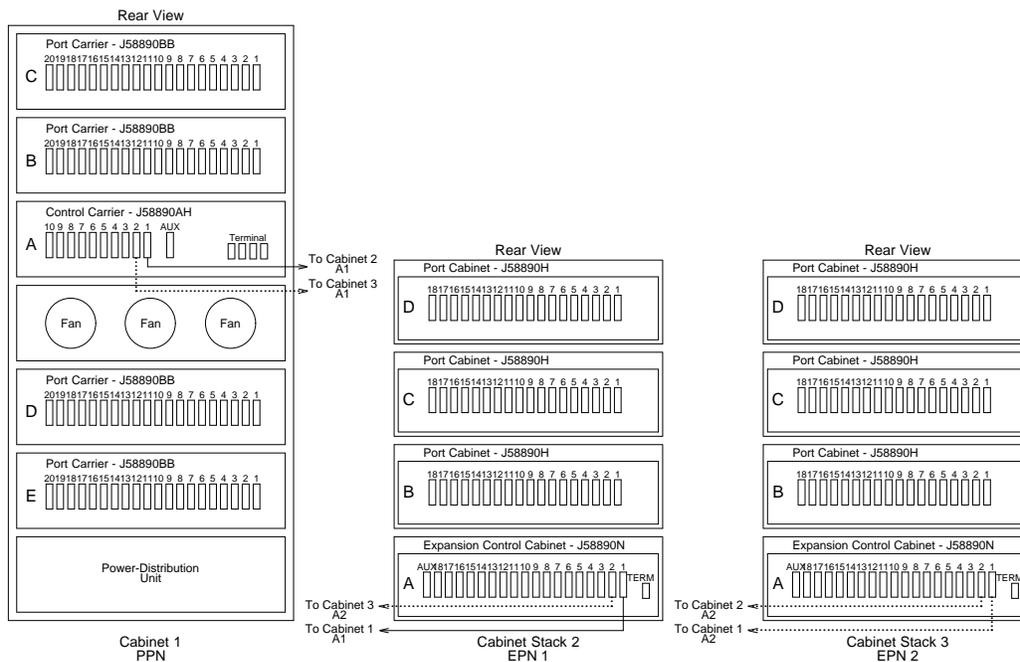
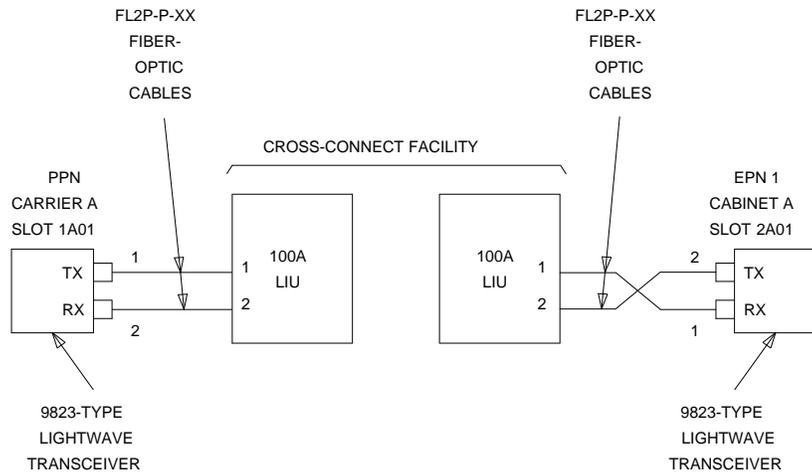
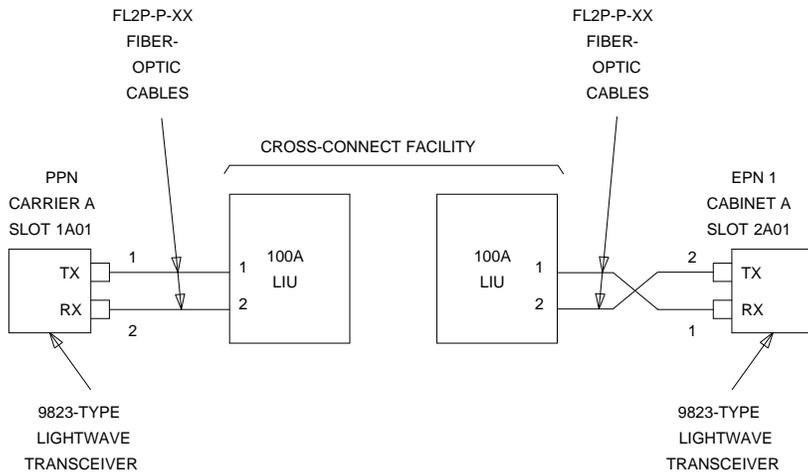
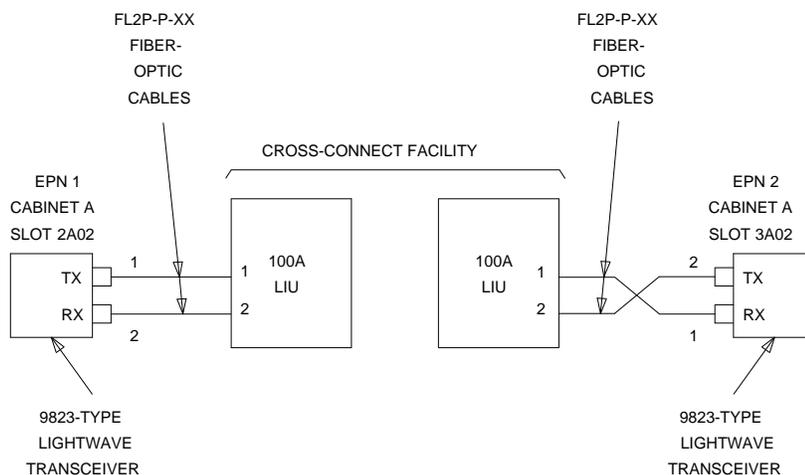

Figure 8-16. Standard-Reliability G3i V4 with Two or Three Port Networks
Figure 8-17. Fiber-Optic Connections PPN to EPN1
Figure 8-18. Fiber-Optic Connections PPN to EPN2
Figure 8-19. Fiber-Optic Connections EPN1 to EPN2
1. Behind control carrier A of the multicarrier PPN (Figure 8-16 on page 8-42, Figure 8-17, Figure 8-18, and Figure 8-19):